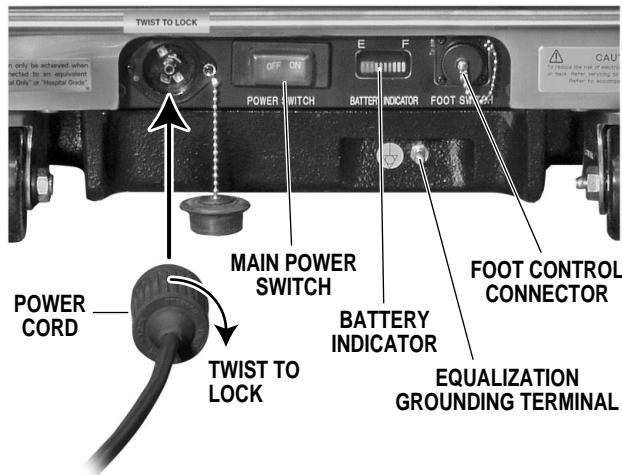

Figure 2-1. Electrical Panel
**a.** Make sure the Power cord is securely attached to the table. To install the power cord, align the cord connector with the base connector, insert the cord and twist clockwise to lock the cord into the connector. See figure 2-1. Plug the cord into a properly grounded, Hospital Grade, 120 VAC outlet. Make sure the power cord is routed to the outlet to prevent it from being in the way of operating personnel.